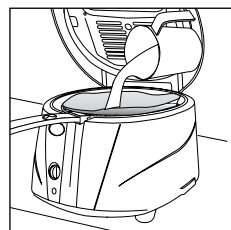

fig. 8
- Next pour the oil or fat very slowly into the deep fryer so that it does not spill out of the filter (fig. 8).